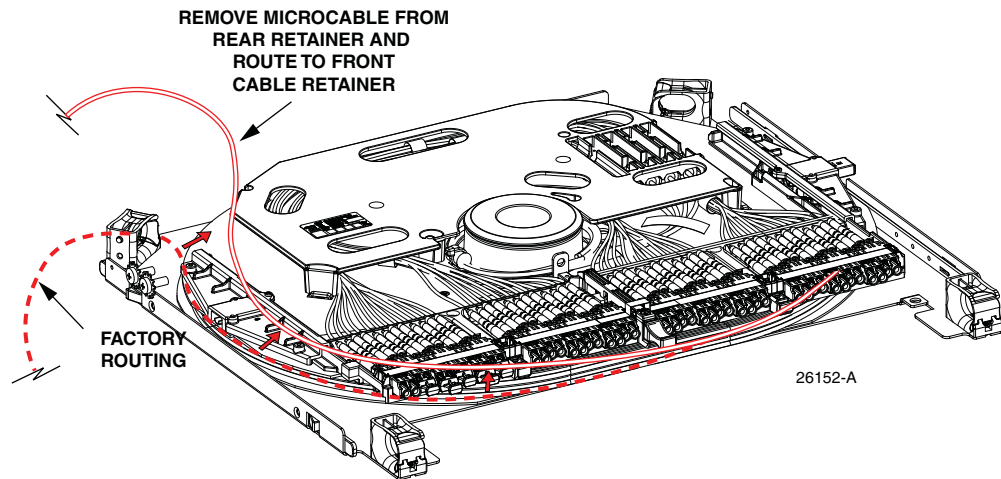

Figure 31. Routing Cable To Front of Cable Spool Tray
- b. Route the microcable from the rear cable retainer and route it to the front cable ring as shown in Figure 31.